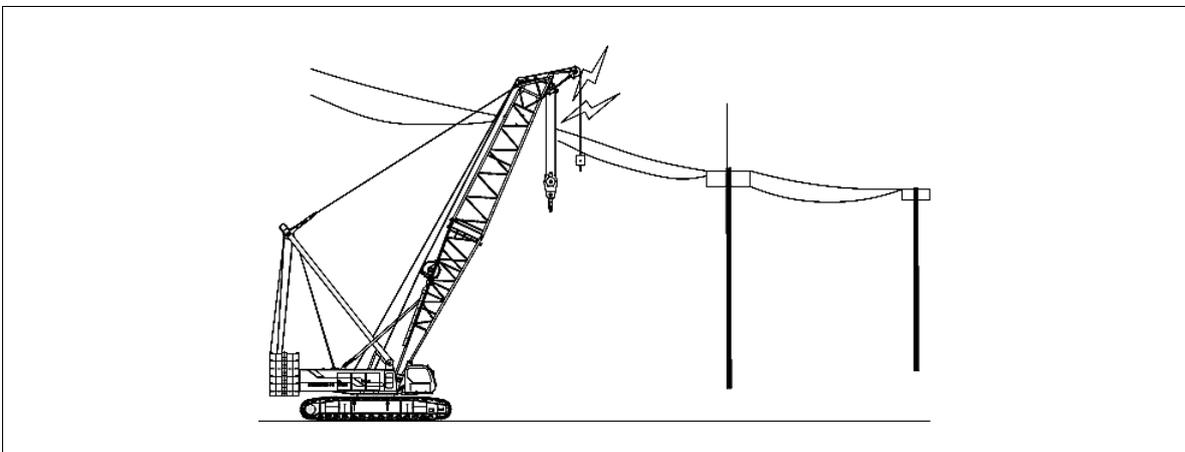

Figure 3-8 Pay attention to high-voltage power line
f) A safe distance must be kept between any part of the crane and a high-voltage power line. Otherwise there might be an accident of electric shock as shown in Figure 3-8.